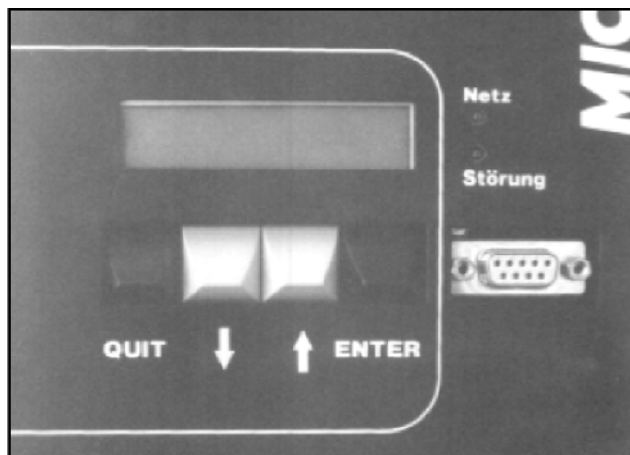

Figure 3.5
- For putting into operation and for all status displays the top side has an illuminated two-line LCD with four keys. All adjustments and status displays are made here (see Figure 3.5), so there is usually no need to access the actual printed board. It holds no operating and display elements; local repairs by the customer are in any case impossible due to the complex digital electronics.